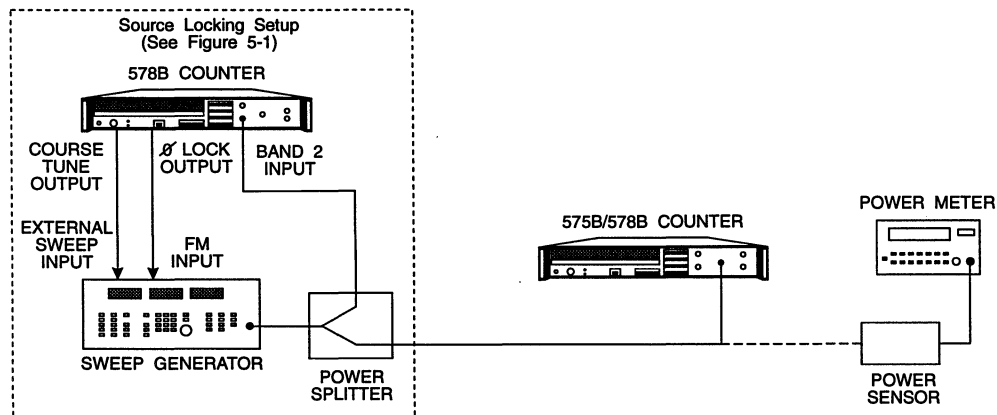

Figure 5-5. Band 3 Range and Sensitivity Test Setup.
1. Connect equipment as shown in Figure 5-5.